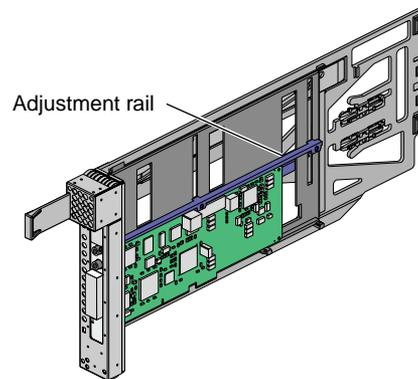

Figure 14-6 Moving Carrier Guide Bar to Secure Half-height Card
- d. Move the carrier guide bar (adjustment rail) so that it holds the card firmly in place (see Figure 14-6).